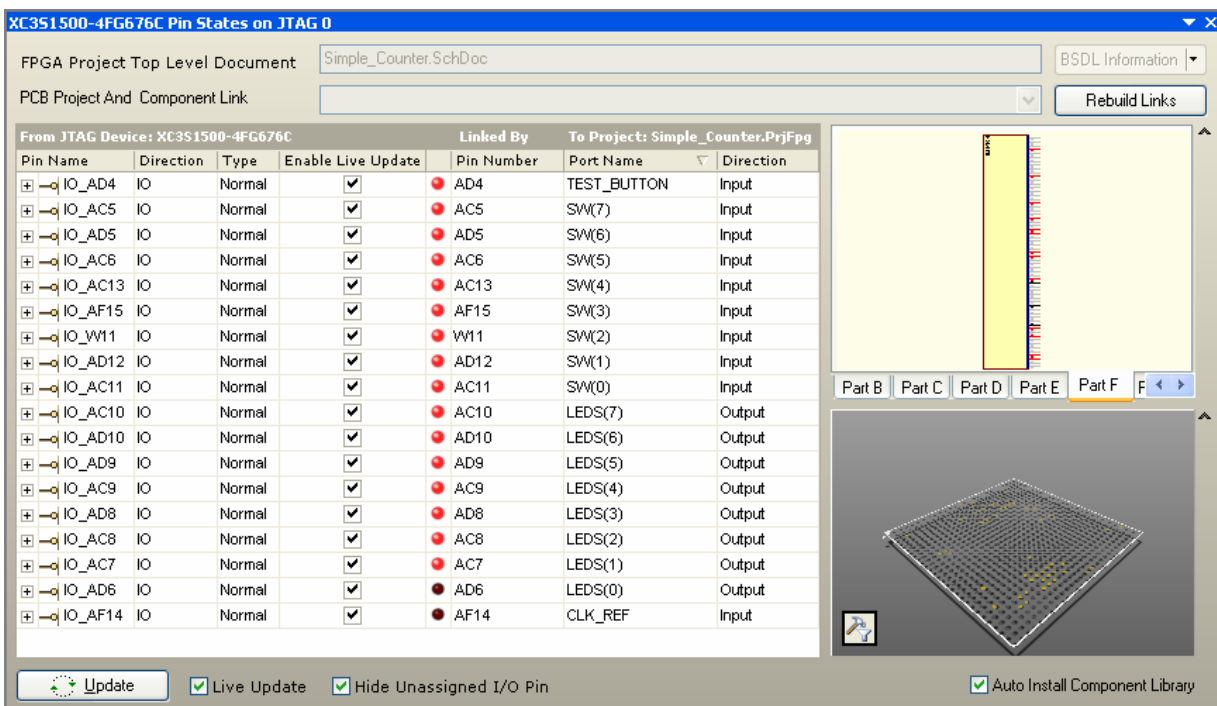

Figure 31. Live monitoring of device pins.
2. Click the **JTAG Viewer Panel** button to access the **JTAG Device Viewer** panel. Ensure that both **Live Update** and **Hide Unassigned I/O Pin** options are enabled (Figure 31).